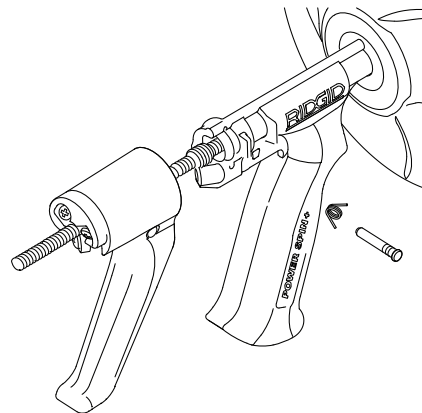

Figure 10 – Trigger Assembly
1. Press non-headed end of pivot pin through the trigger and remove trigger from handle (Figure 10). Do not lose the spring.
10. Install spring and trigger, securing with the pivot pin (*Figure 10*).